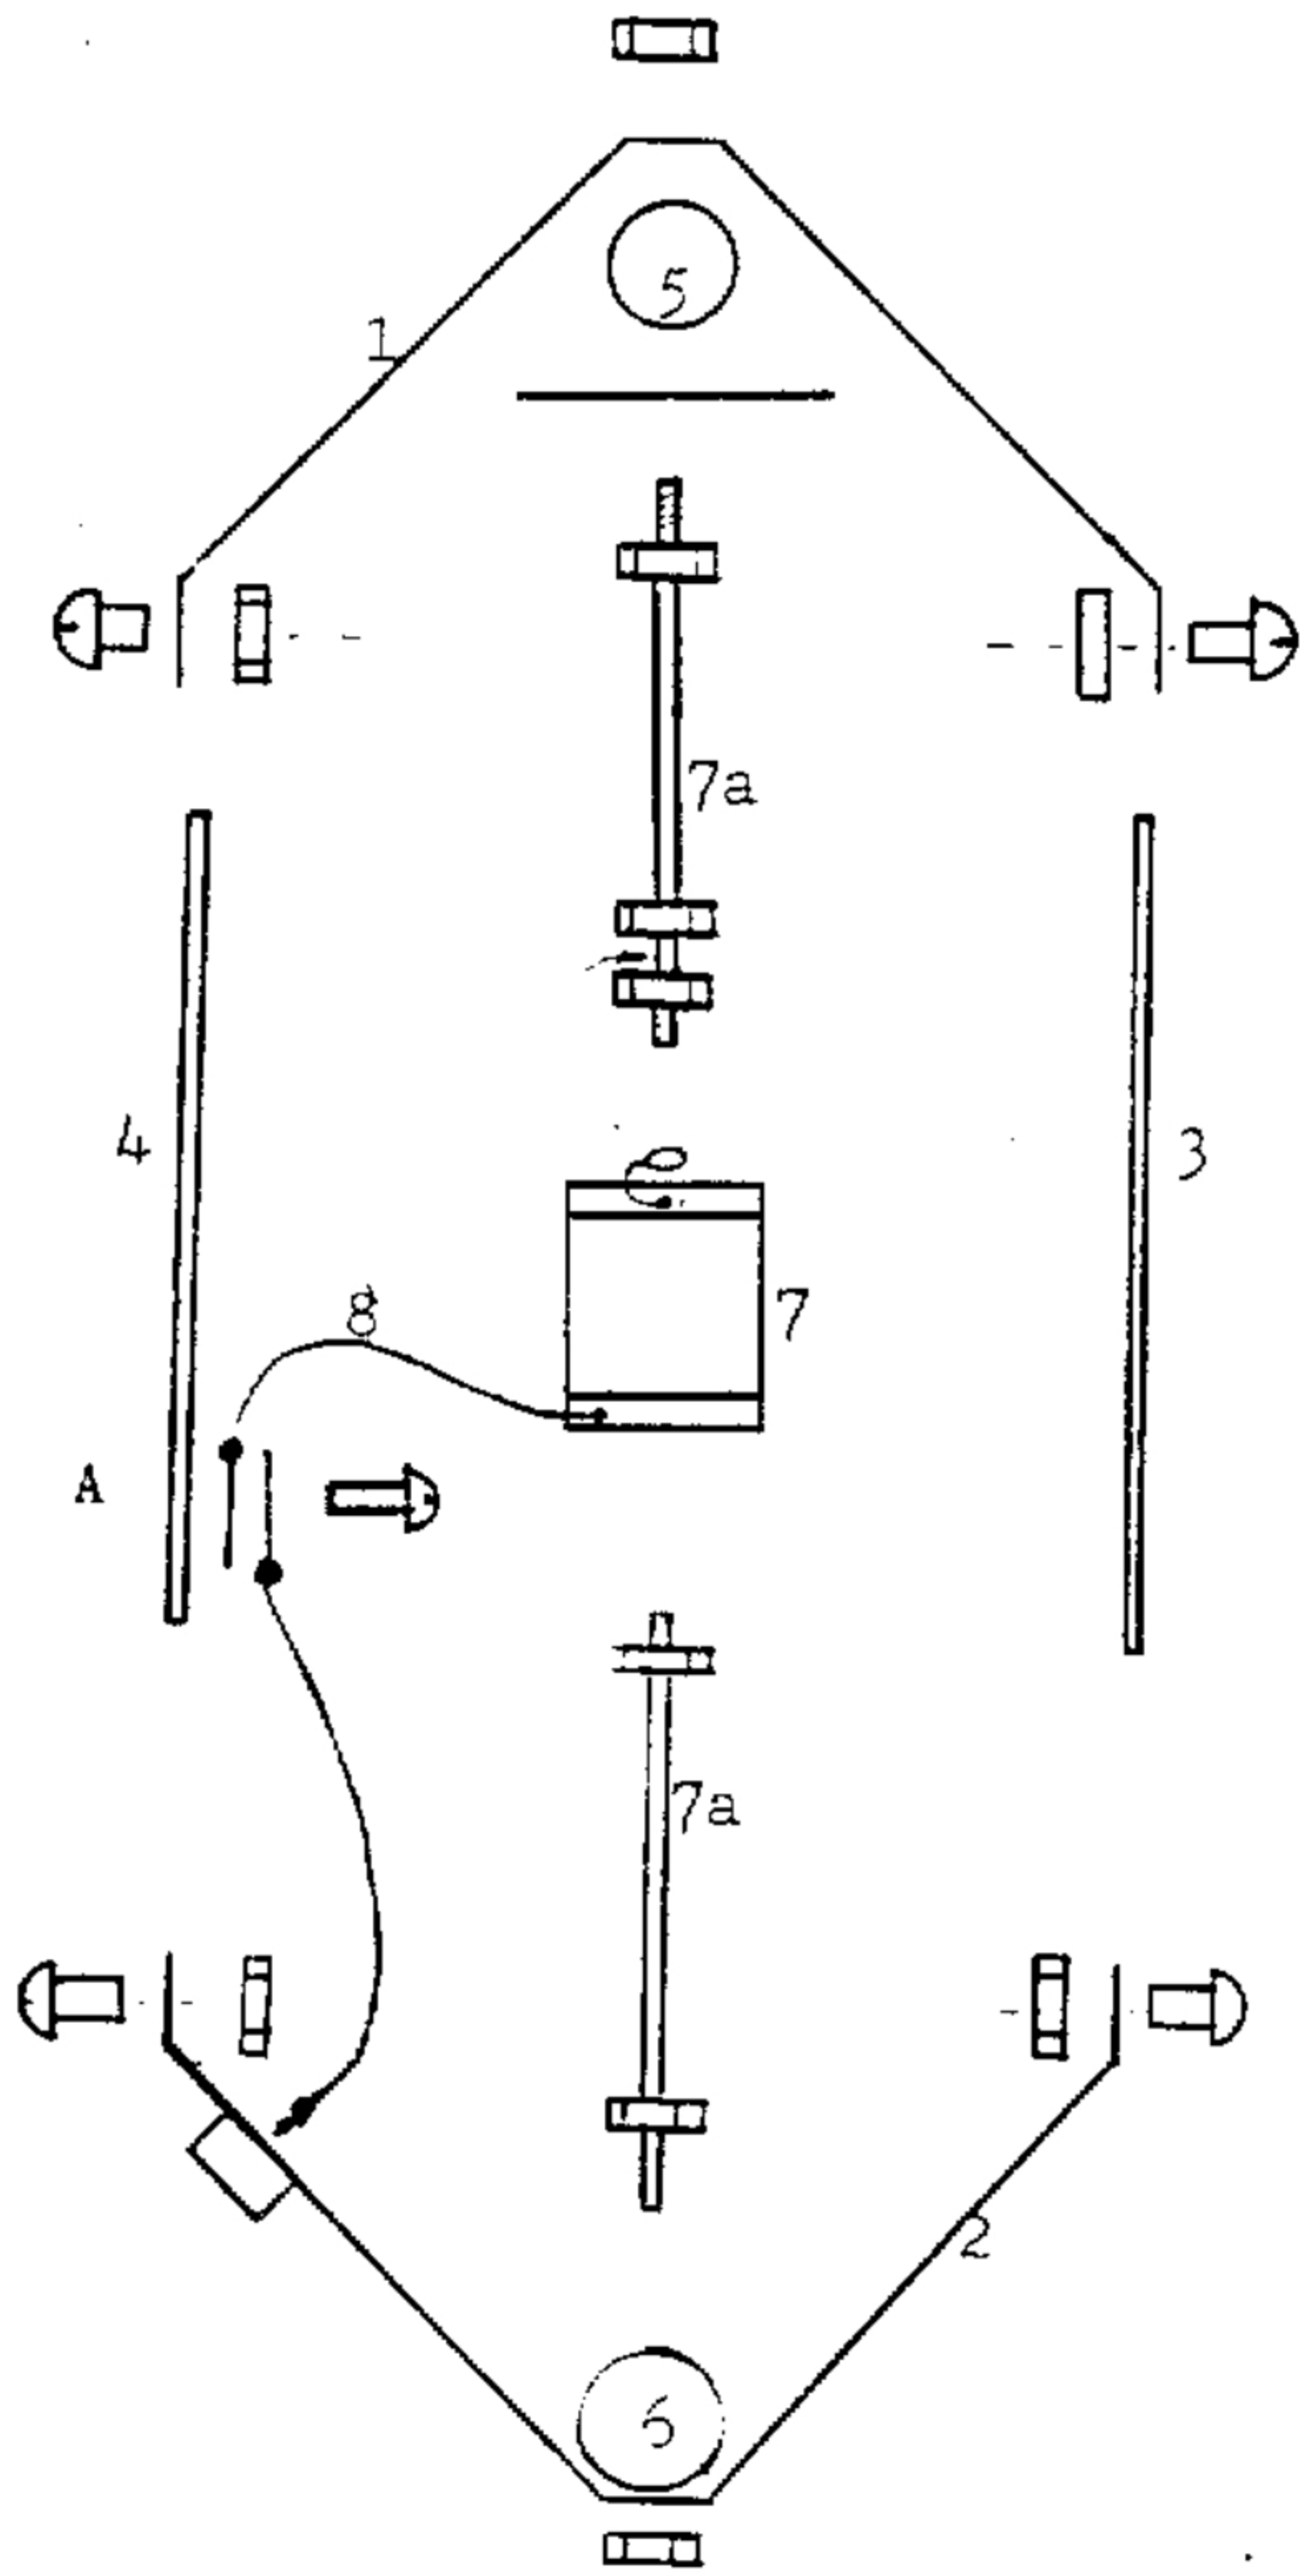
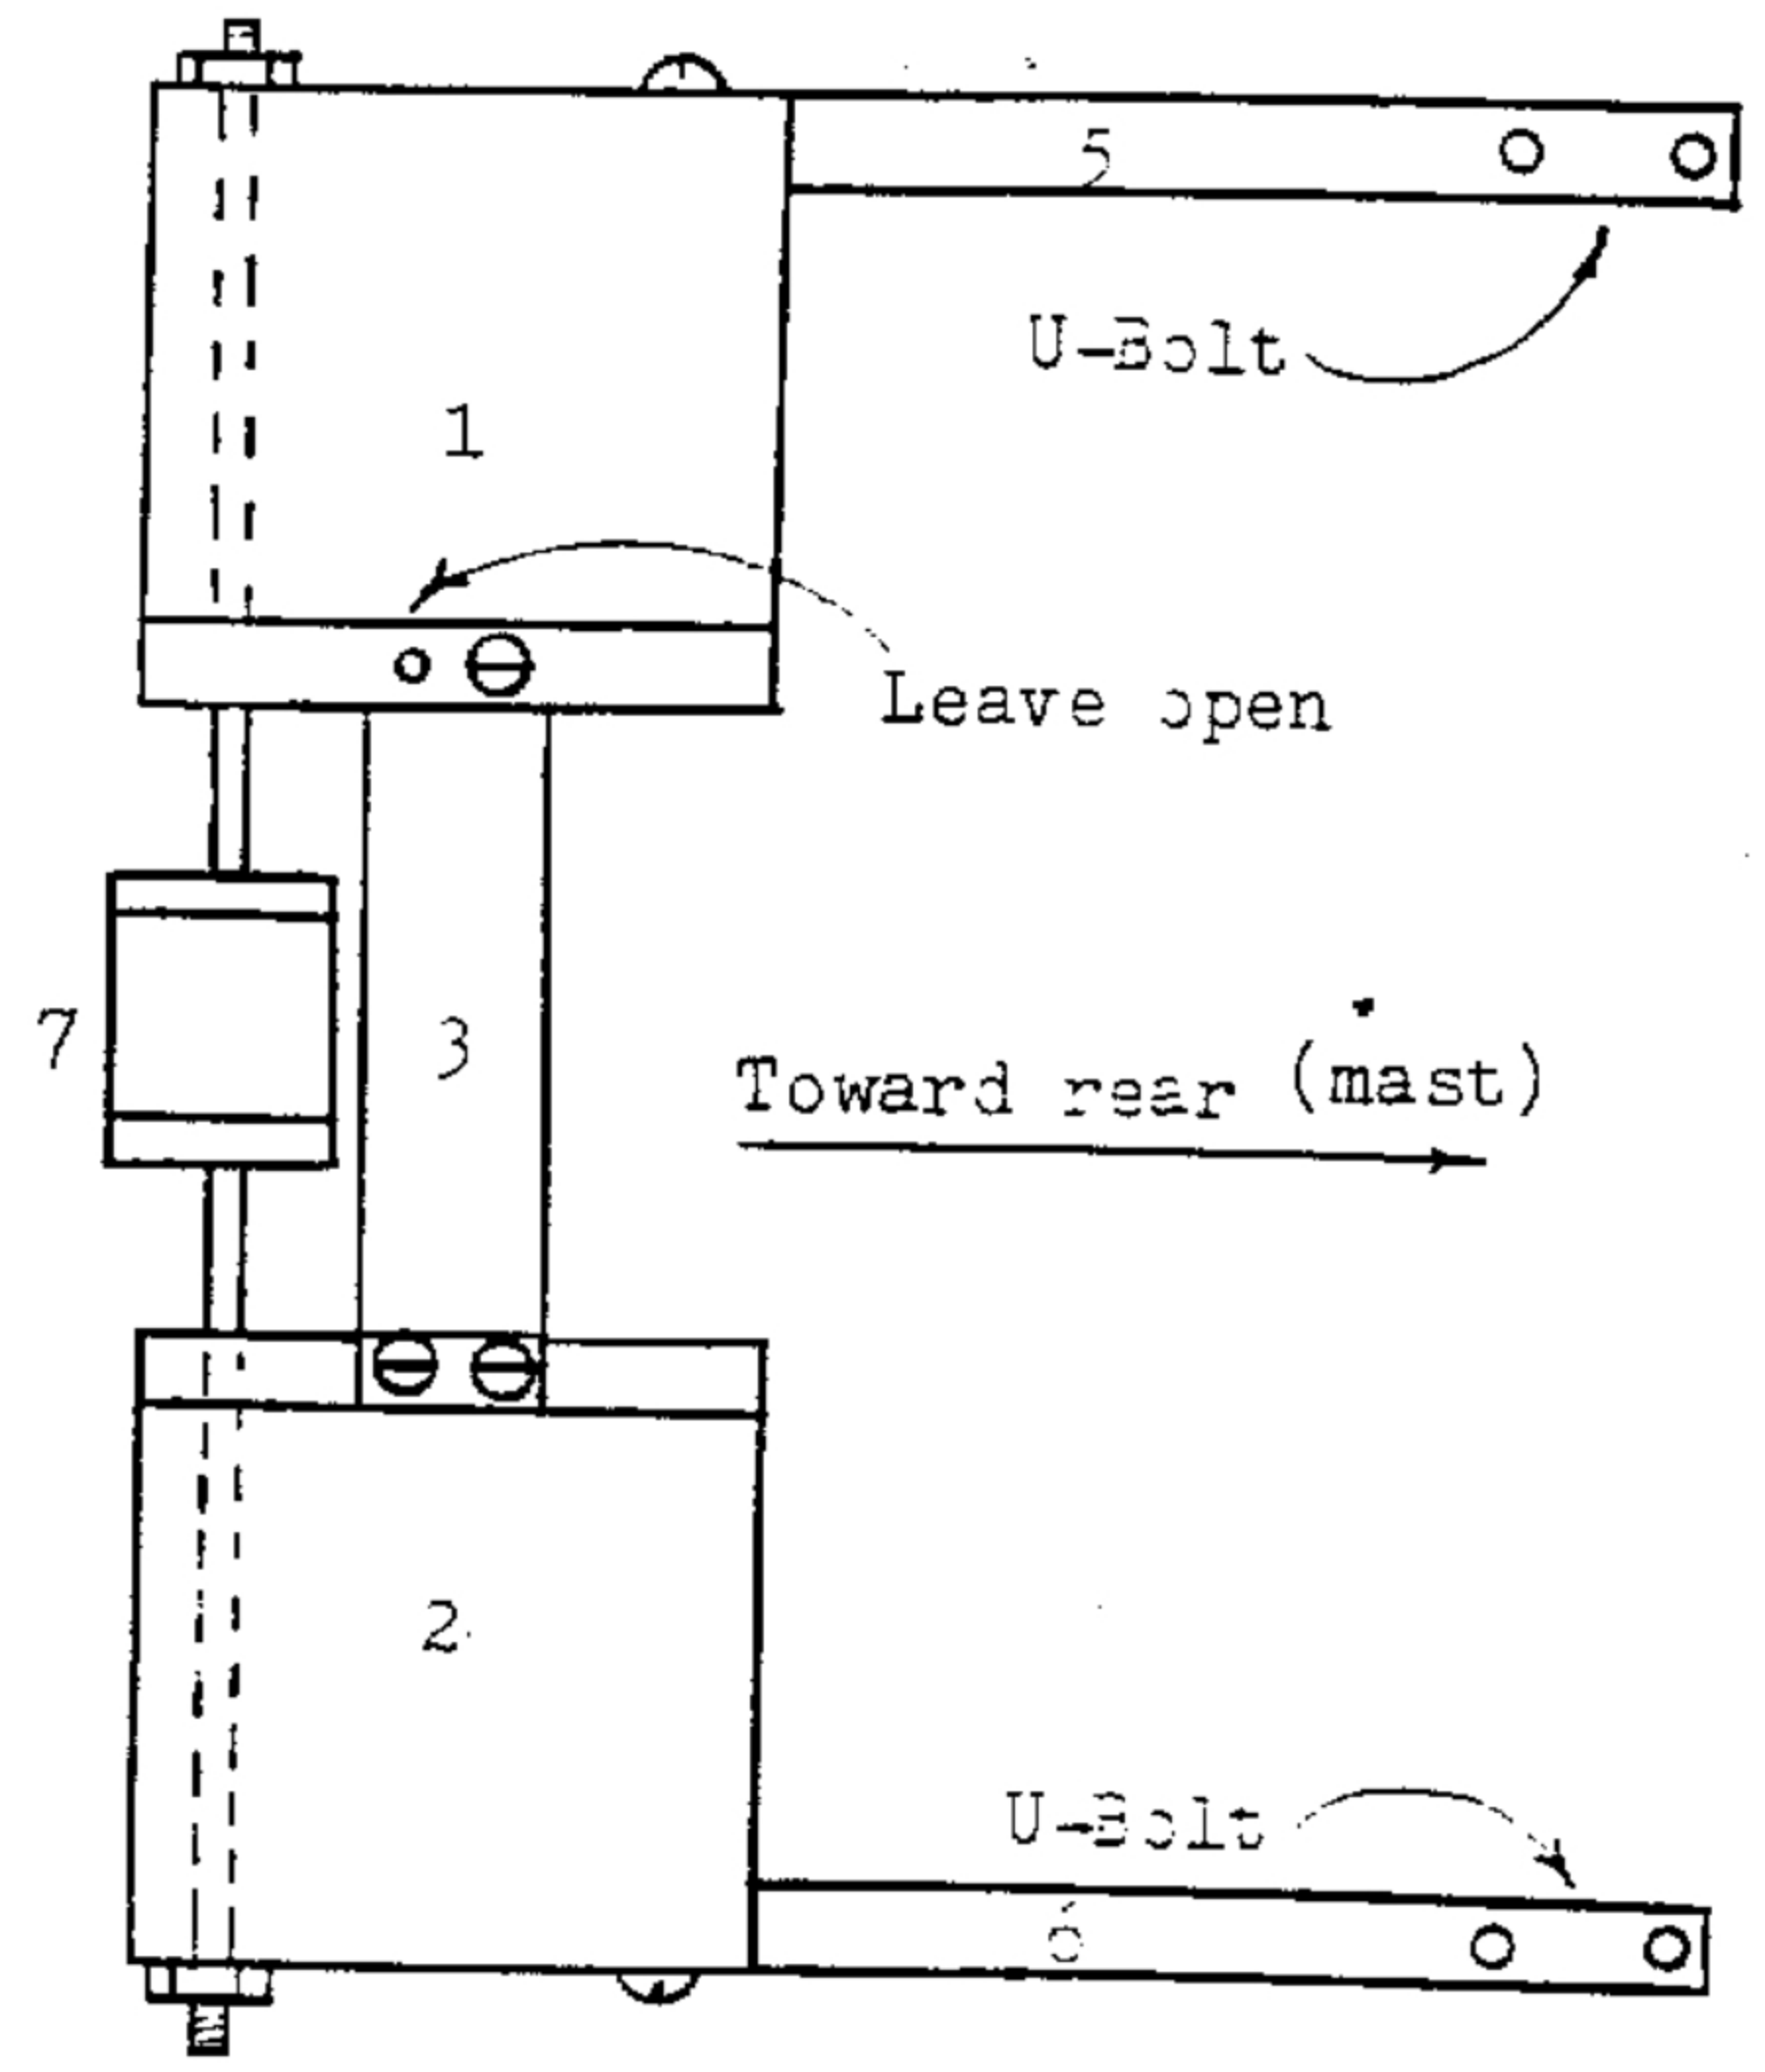

Figure 1
Figure 2
1. Bolt the Top Plate (1) to the Top Support (5). Use 1 1/2" x 1/4" machine bolt through the rear hole. Leave the front hole open (see figs. 1 & 2, Pg. 6)
2. Bolt the Bottom Plate (2) to the Bottom Support (6). Use a 1 1/2" x 1/4" machine bolt through the rear hole. Leave the front hole open.
3. Bolt both Acrylic Insulators (3 & 4) to the Top Plate (1). Use three 3/4" x 1/4" machine bolts and nuts. Leave a hole open toward the front of the antenna opposite the side of the connector. The small threaded holes in the Acrylic Insulators should be placed away from the Top Plate. (see fig. 2, pg. 6)
4. Bolt the Bottom Plate (2) to the opposite ends of the Acrylic Insulators (3 & 4) Using four 3/4" x 1/4" machine bolts.
5. Thread four stop nuts onto the ends of the Coil Support Rods (7a). There should be one stop nut on each end. (see fig. 1, pg. 6)
7. Slip one end of the second Coil Support Rod through the wire eye at the top of the Coil. Thread a second stop nut onto the end of this Coil Support Rod to secure the wire eye. Thread this Coil Support Rod into the top of the Coil and tighten (at least 3/4" in). Then tighten the second nut to secure the wire eye. (see fig. 1 pg. 6)
10. Slip the small wire eye from both lead wires coming from the Coil and connector onto the 8/32 x 1/2" machine screw and thread the screw into the hole in the nearest Acrylic Insulator. (see fig.1, pg. 5) Tighten securely.
For example, if the ISOTRON is mounted on a tower, somewhere near the middle, its resonant frequency and impedance value will be lower than if the antenna is mounted in the clear. By insulating the antenna from the tower, you can increase its feedpoint impedance and raise its resonant frequency. Different locations on the tower will produce different values, and it may be necessary to compensate differences by tuning your ISOTRON. If the feedpoint impedance and resonant frequency become higher than desired, then it is possible to decrease them by connecting a capacitor of about 100pf or less between the antenna and the tower (see pg. 14, fig. 2). Another words the lowest impedance would be directly grounding the antenna to the mast. A point in between can be obtained by the use of a capacitor as described. This technique will apply on most mountings where the feedline is longer than 1/8 wavelength. If the feedline is shorter, then the impedance value is determined by the ground of the radio and cannot be varied.